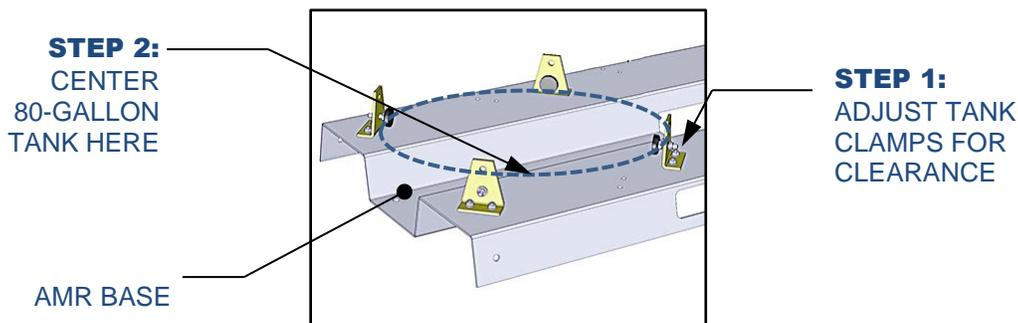
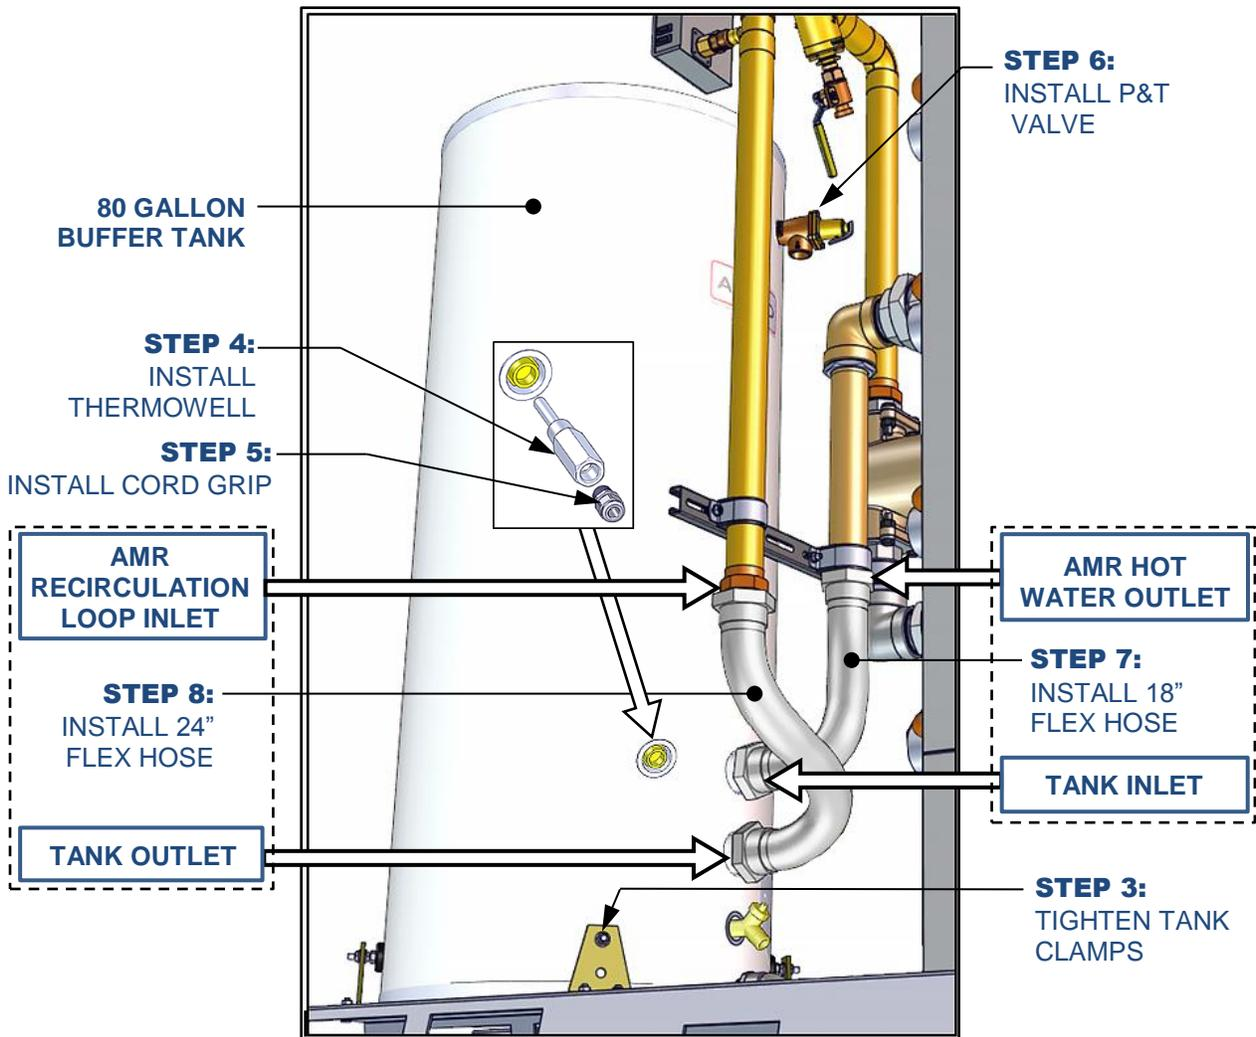

Figure 3-12: 80 Gallon Tank Location and Tank Clamps on AMR Base
Figure 3-13: AMR 80-Gallon Tank Installation and Components
1. Retract threaded tank clamps to allow maximum clearance for the tank (Figure 3-12).
2. Center tank as indicated in Figure 3-12. Ensure that water connections are facing the rear of the AMR water heater as indicated in Figure 3-13.
3. When tank is in correct position, tighten tank clamps against tank (Figure 3-13).
4. Install the thermowell (P/N 49263) into the lower port on tank (see Figure 3-13) with pipe dope, then put heat conducting compound (P/N 122848) inside the thermowell.
5. Put the temperature sensor probe through the cord grip (P/N 62005) and then insert the sensor fully into the thermowell (see Figure 3-13). Screw the cord grip into the thermowell and then tighten cord grip to secure the temperature sensor probe in the thermowell.
6. Install pressure relief valve (P/N 92129) into upper port of tank using appropriate pipe dope, (such as Loctite 567). Valve outlet should point downwards (Figure 3-13).
7. Install the 18" Flex Hose (P/N 97084-18) between the AMR hot water OUTLET and the tank INLET. See Figure 3-13.
8. Install the 24" Flex Hose (P/N 97084-24) between the tank OUTLET and the AMR circulation loop INLET. See Figure 3-13.